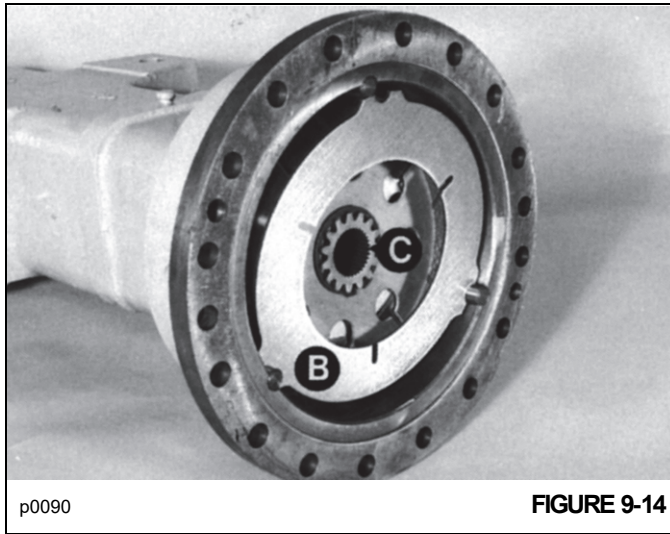

FIGURE 9-14
3. There are two counterplates **B** Figure 9-14 one at each end of the brake pack, which are secured to the plate carrier **C**. If the plates are to be reused, note their position and which way round they are then remove the brake pack.